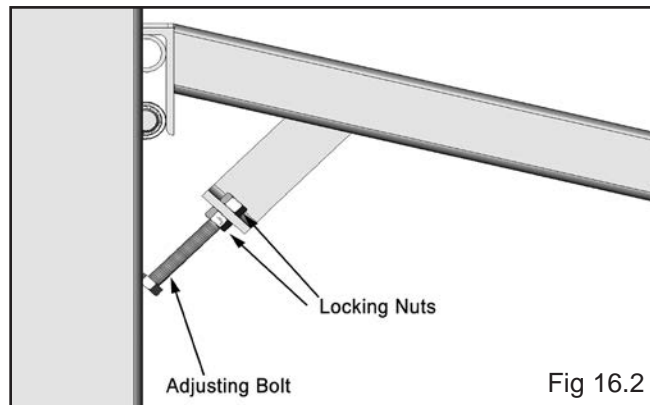

Fig 16.2
2. Adjust the angle of the raised Approach Ramps using the Bolt and the Locking Nuts on the under side of the Ramps. (See Fig. 16.2)